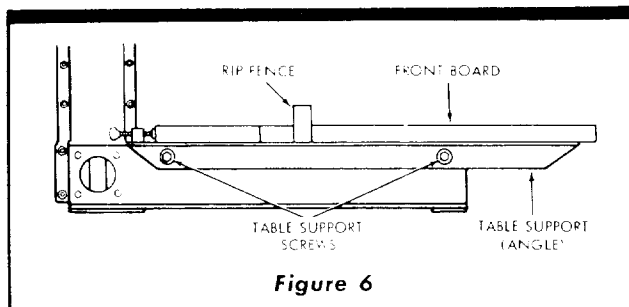

Figure 6
- a. If saw tooth ("A", figure 5) moves away from the square when moving the blade from the rear toward the front of the table, loosen the table screws at the left side and tap the rear edge of front board forward until the table is square with the saw blade. (See figure 6.)
4. Loosen the table support screws at each side just enough to allow the table support angles to slip when tapped with a mallet. (See figure 6.) If too loose, leveling operations will be difficult.
7. Tighten the two table support screws securely at the left side of frame (figure 6), and recheck by moving saw blade back and forth between points 1 and 3 (POSITION 2, figure 9). If this end of table surface is level, the saw will just touch the table at points from 1 to 3. If not level, readjust point 3.
10. Tighten the two table support screws securely at the right side of frame (reference figure 6), and move saw blade back and forth between points 2 and 4 (POSITION 4, figure 9) to make sure it touches at all positions from points 2 and 4.